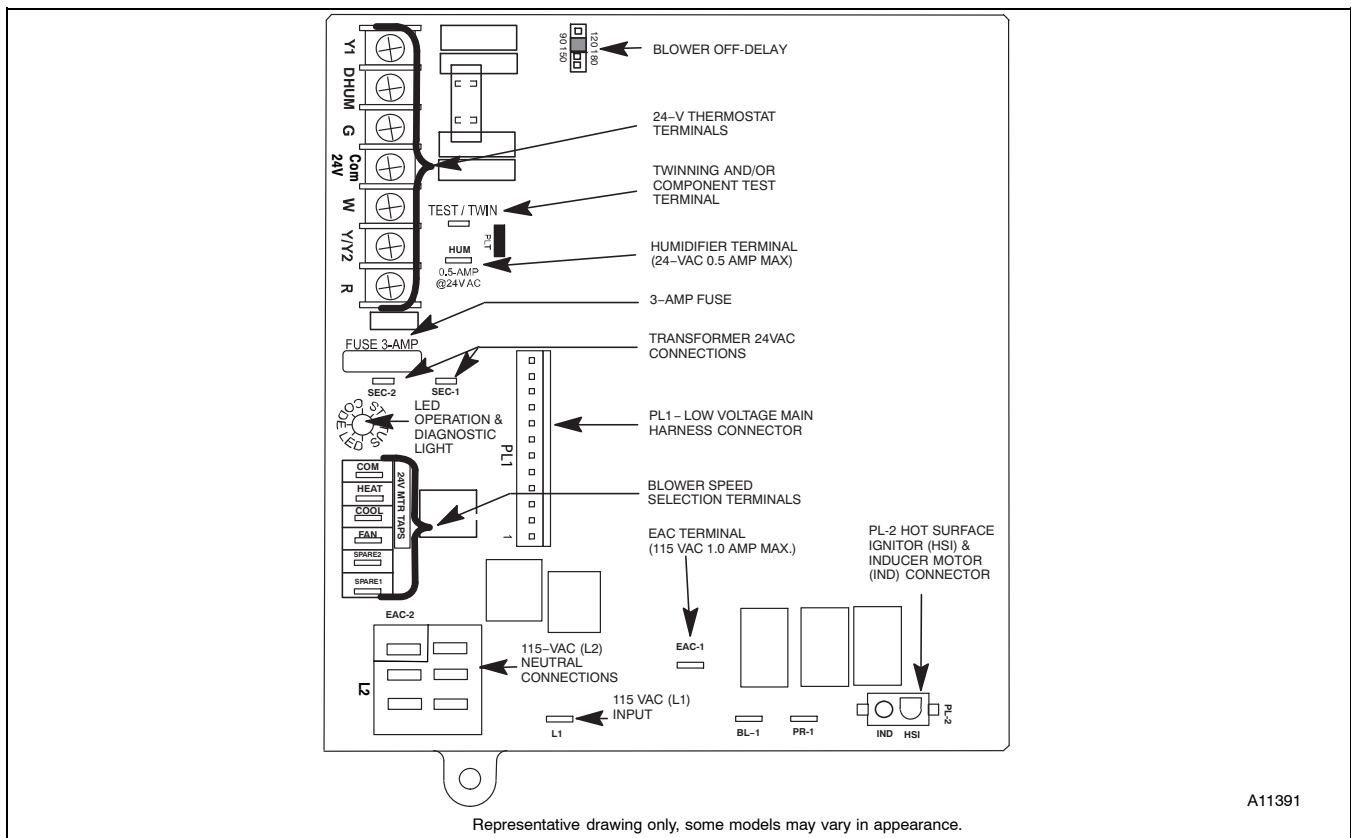

Figure 12 - Single-Stage Furnace Control
1. Jumper R and W thermostat connections to call for heat. (See **Figure 12**)